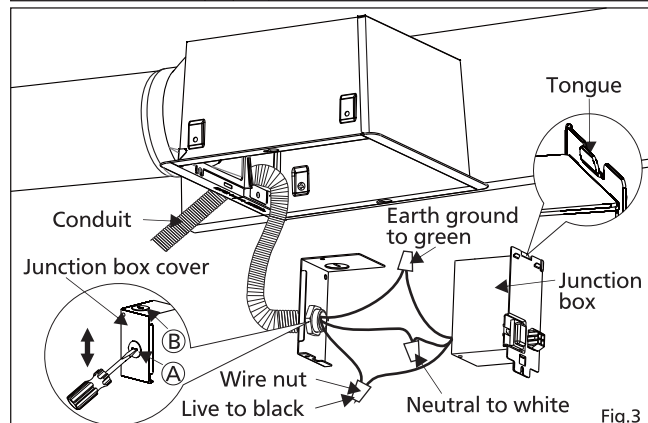
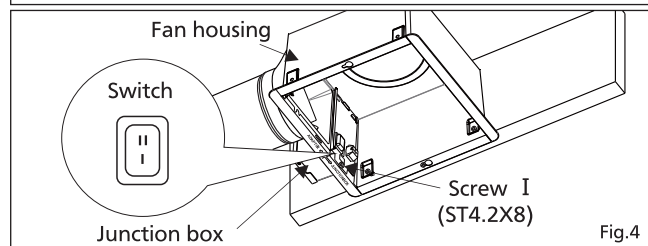

Fig.3
Fig.4
4. Remove junction box cover and secure conduit or strain relief to junction box cover knock-out hole (A or B). (Fig.3)
6. Affix the junction box cover to junction box. If the knock-out hole is used (B), this step must be performed after step 8.
8. Affix the junction box to the top of the fan housing with screw I (ST4.2X8). (Fig.4)
! Before affixing screw I (ST4.2X8), make sure the tongue of the junction box is clipped on fan housing correctly. (Fig.3)
9. Select the air volume speed by adjusting the switch. Factory setting is "I" (Standard) position; pressing "II" (Boost) selects the high airflow position. (Fig.4)
4. Remove junction box cover and secure conduit or strain relief to junction box cover knock-out hole (A) or (B). (Fig.3 of page 8)
8. Affix the junction box to the top of the fan housing with screw I (ST4.2X8). (Fig.4 of page 8)
- ❗ Before affixing screw I (ST4.2X8), make sure the tongue of the junction box is clipped on fan housing correctly. (Fig.3 of page 8)
9. Select the air volume speed by adjusting the switch. Factory setting is "I" (Standard) position; pressing "II" (Boost) selects the high airflow position. (Fig.4 of page 8)